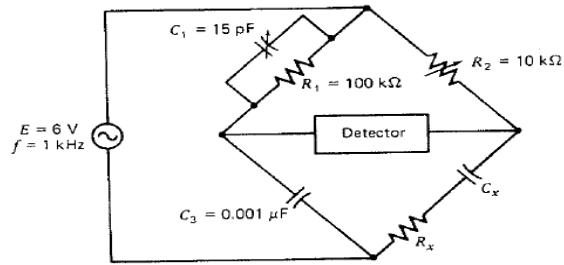

Figure 2
3. The Schering bridge shown in Figure 2 is operated at balance. Find the equivalent series resistance and capacitance of R_x and C_x . Also find the Q factor of the capacitor C_x . (Understand)